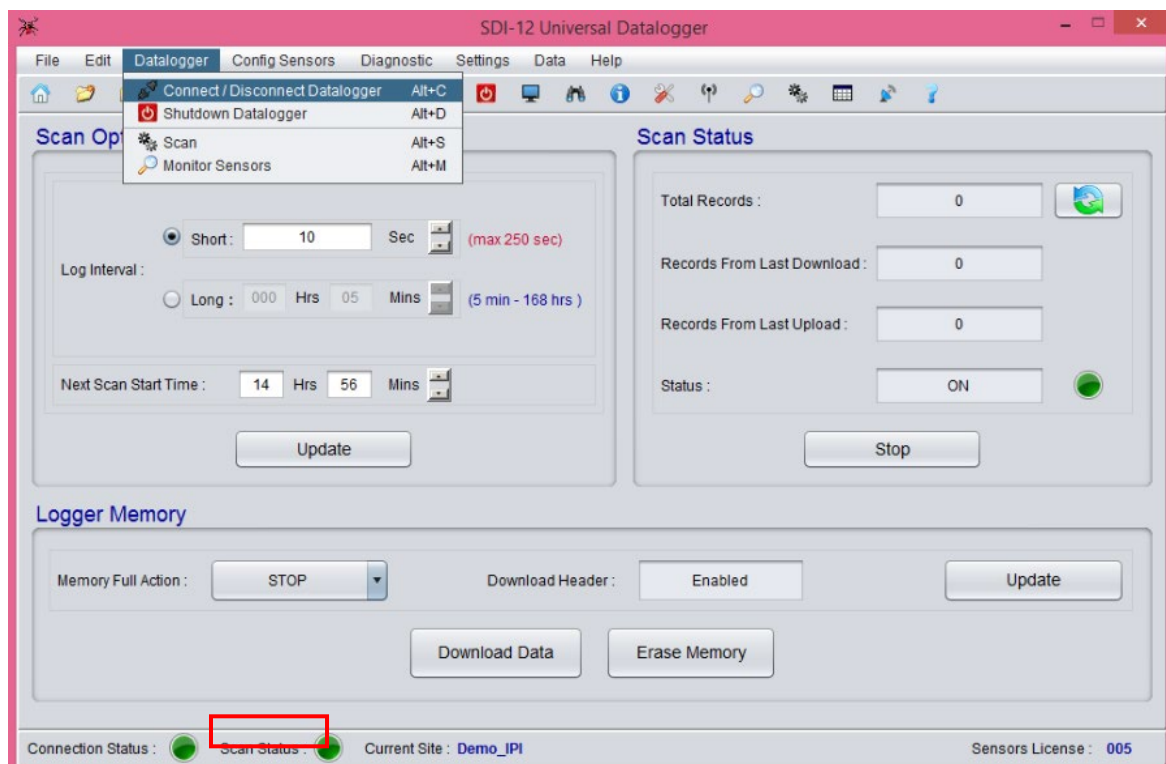

Figure 7-29 Scan status indicator in Scan window
- 28 After updating, colour of “Scan Status” will change from Red to Green (as displayed at the bottom left corner of figure 7-29 below). Now click “Datalogger” followed by “Connect/Disconnect Datalogger”